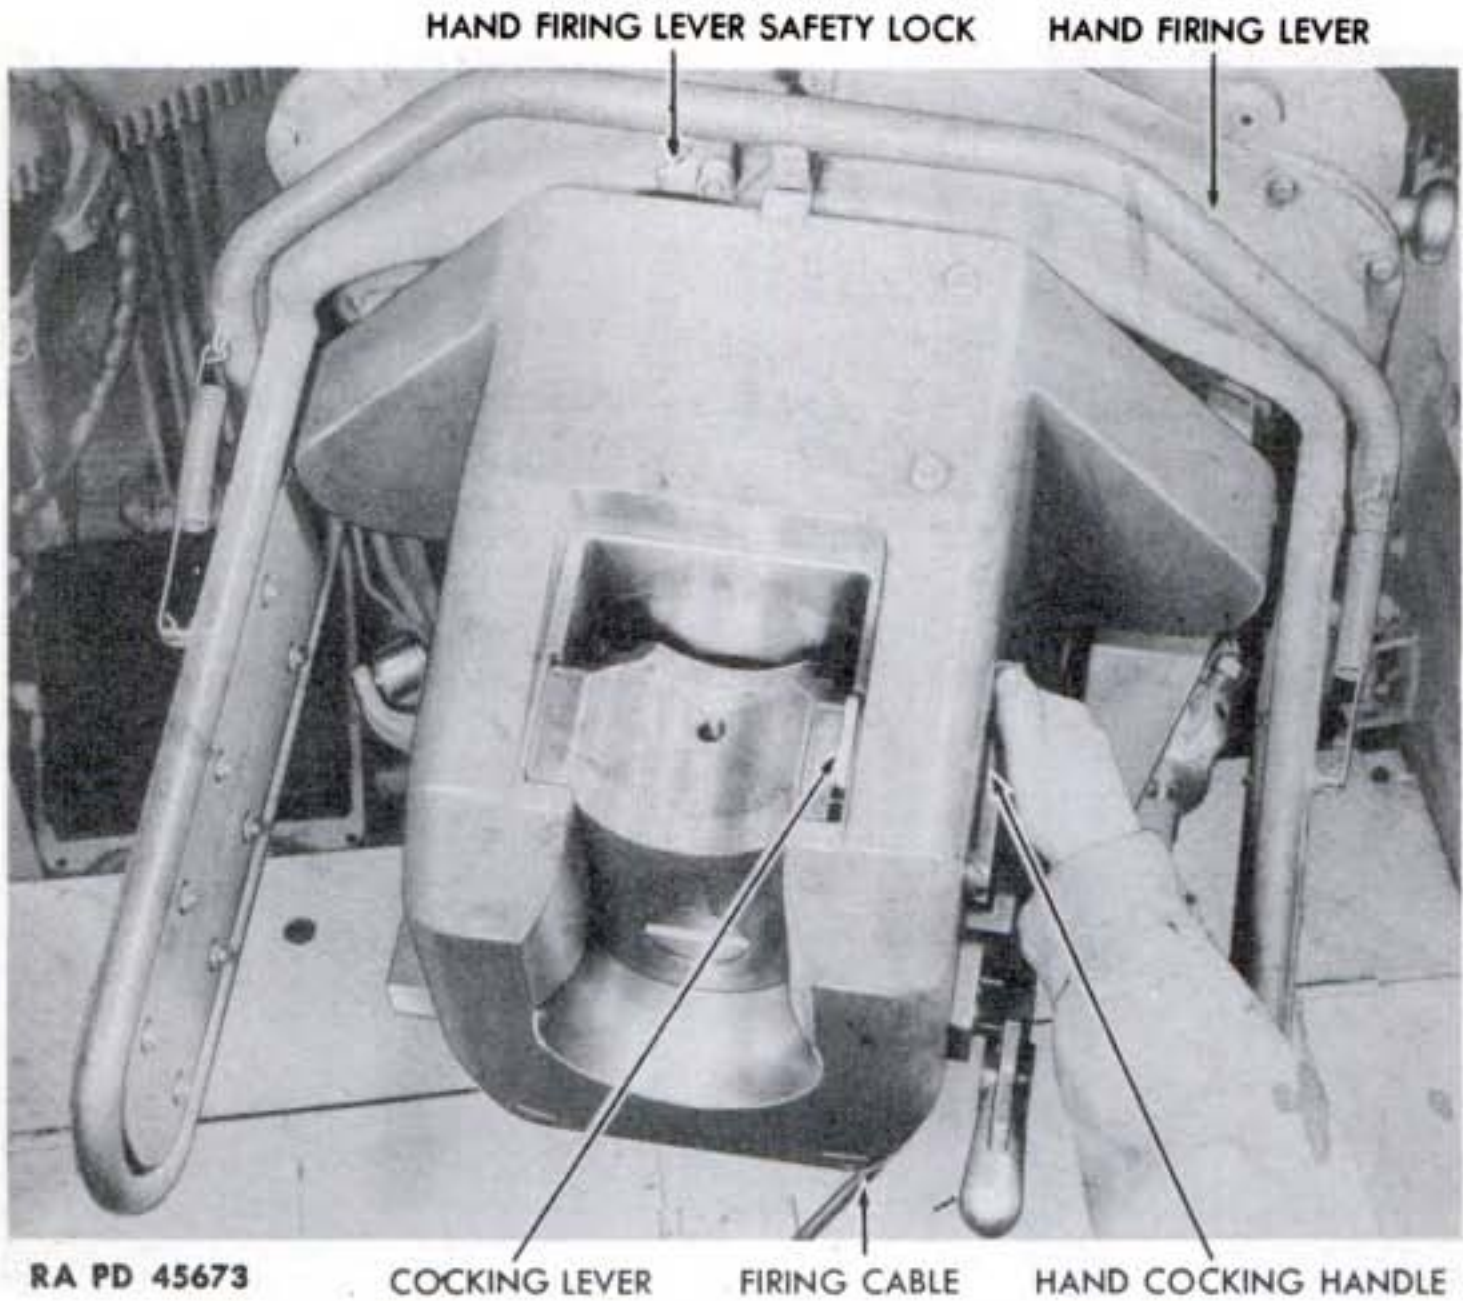

Figure 186—Cocking with Hand Cocking Handle
c. Hand-cock the percussion mechanism by pushing down (hard) on hand cocking handle (fig. 186) and then fire the gun by pressing on electrical firing plunger. If a distinct click is not heard (caused by the release of the firing pin) make certain wire connections are tight.
d. Turn hand-firing lever safety lock down (fig. 186) and repeat step c above, by using hand-firing lever. If hand-firing lever is not